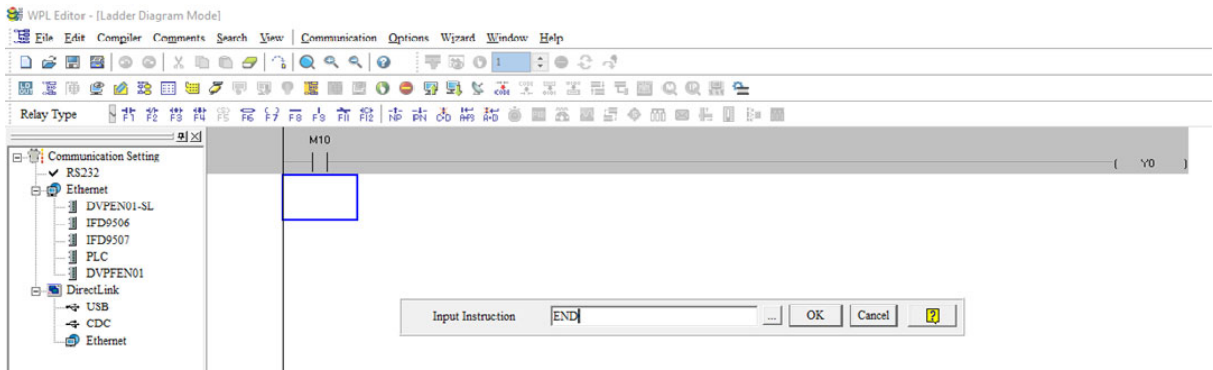

Figure 16-16
Step 4: Press “ENTER” button, when the “Input Instructions” window appears, key in “END” in the field and press the OK button (see figure 16-16 and 16-17 below).